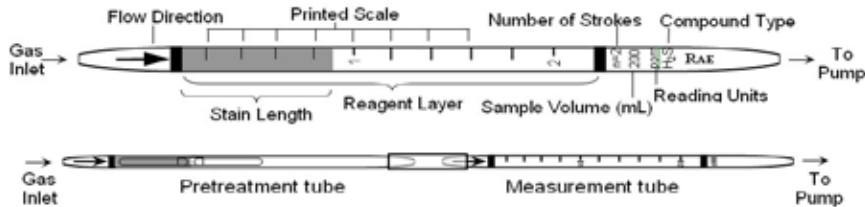

Figure 3-2. Gas detection tube parts description.
1. **Tube and Box.** Figure 3-2 shows the key components of a RAE Systems gas detection tube. The tubes are typically packaged in a box of 10 tubes. Each box has quick instructions on the back. Some tubes require preconditioning of the gas and are packaged with 5 pretreatment tubes and 5 measurement tubes for a total of 5 measurements. The concentration scale is printed on the tube and an arrow indicates the direction in which the gas must enter. The standard number of 100 mL